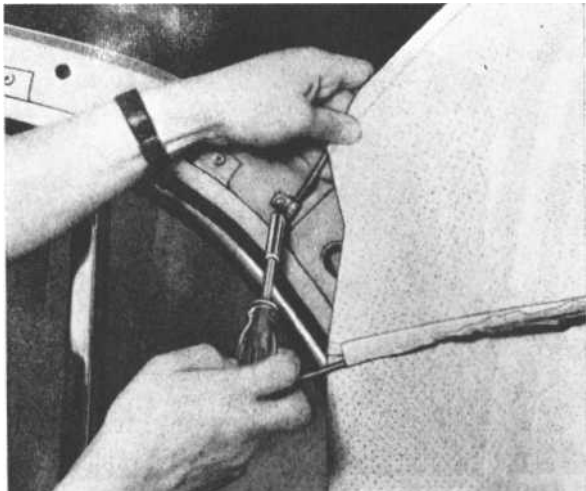

Fig. 73. Fitting rear clip
6. Fit the headlining starting at the back, see Fig. 73. The rear stretchers are attached with clips, one on each side. The other stretchers are placed on the sheet metal edge over the doors. The stretchers should stand vertically.